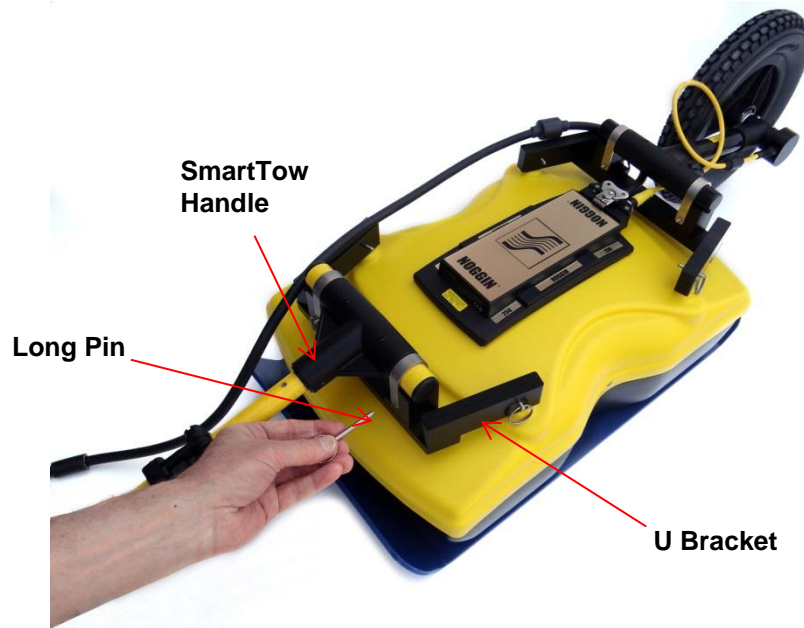

Figure 2-47: Securing handle to other SmartTow bracket
12. Attach the handle to the front SmartTow Bracket assembly with the U-brackets and pins (Figure 2-47).